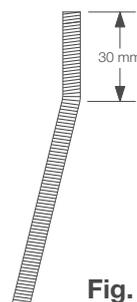

Fig. 10
b) if the motor will be fixed to the ground, bend the bars at a height of about 30 mm as indicated in Figure 10.